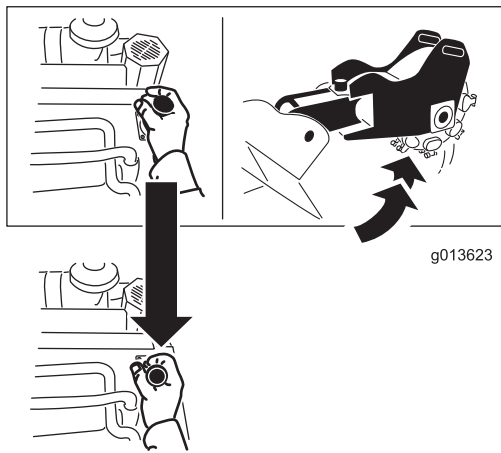

Figure 13
- To raise the grinder, pull back on the lever (Figure 13).